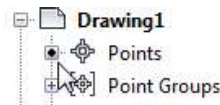

Figure 2-60 The symbol indicating points addition
7. Choose the **Prospector** tab in the **TOOLSPACE** palette and notice a black colored symbol on the left of the **Points** node, refer to Figure 2-60. This indicates that the points have been added in the drawing.